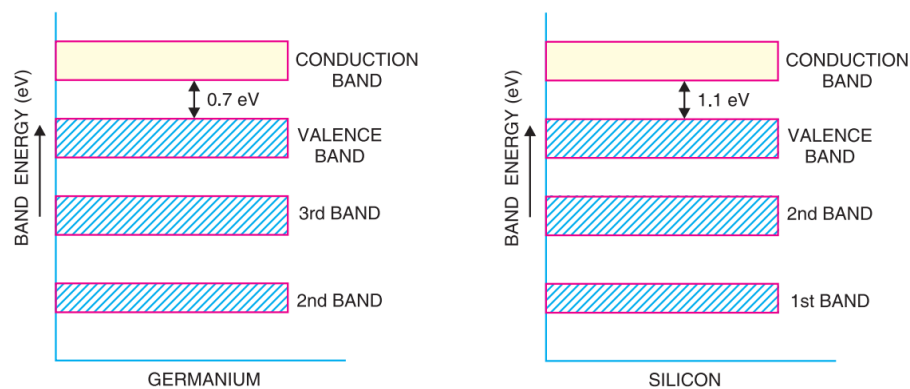

Fig. 1 Energy band diagrams of germanium (Ge) and silicon (Si) atoms
- ❖ In terms of energy bands as shown in Fig.1, semiconductors can be defined as those materials which have almost an empty conduction band and almost filled valence band with a very narrow energy gap (of the order of ≈ 1 eV) separating the two.